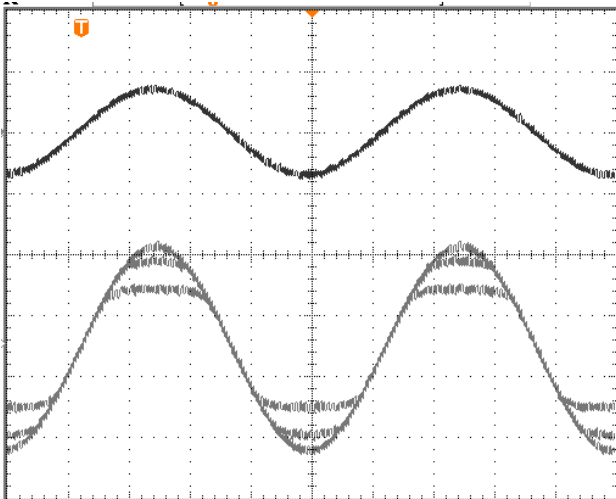

Figure 4: PLIMIT Circuit Operation
The PLIMIT circuit sets a limit on the output peak-to-peak voltage by limiting the duty cycle to a fixed maximum value (see Figure 4). This limit can be thought of as a “virtual” voltage rail, which is lower than the supply connected to PVCC. This “virtual” rail is 9 times the voltage at PLIMIT. This output voltage can be used to calculate the maximum output power for a given maximum input voltage and speaker impedance with Equation (1):